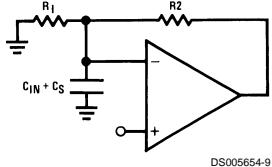

FIGURE 2.
**Input Capacitance:** The input capacitance,  $C_{IN}$ , of the LM146 is approximately 2 pF; any stray capacitance,  $C_S$ , (due to external circuit layout) will add to  $C_{IN}$ . When resistive or active feedback is applied, an additional pole is added to the open loop frequency response of the device. For instance with resistive feedback (Figure 2), this pole occurs at  $1/2\pi (R1||R2) (C_{IN} + C_S)$ . Make sure that this pole occurs at least 2 octaves beyond the expected -3 dB frequency corner of the closed loop gain of the amplifier; if not, place a lead capacitor in the feedback such that the time constant of this capacitor and the resistance it parallels is equal to the  $R_i(C_S + C_{IN})$ , where  $R_i$  is the input resistance of the circuit.